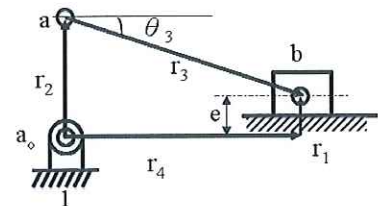

Fig. 2. Offset crank-slider
2. Figure 2 show a offset crank-slider. For the mechanism, if $e=2\text{cm}$, $r_2=6\text{cm}$, $r_3=10\text{cm}$, (a) write down the vector loop equation, (b) find the close form equation for r_4 , (c) if $\theta_2=90^\circ$ and $\omega_2=2400\text{rpm}$, please find r_4 , θ_3 , V_4 , and ω_3 . (20%)